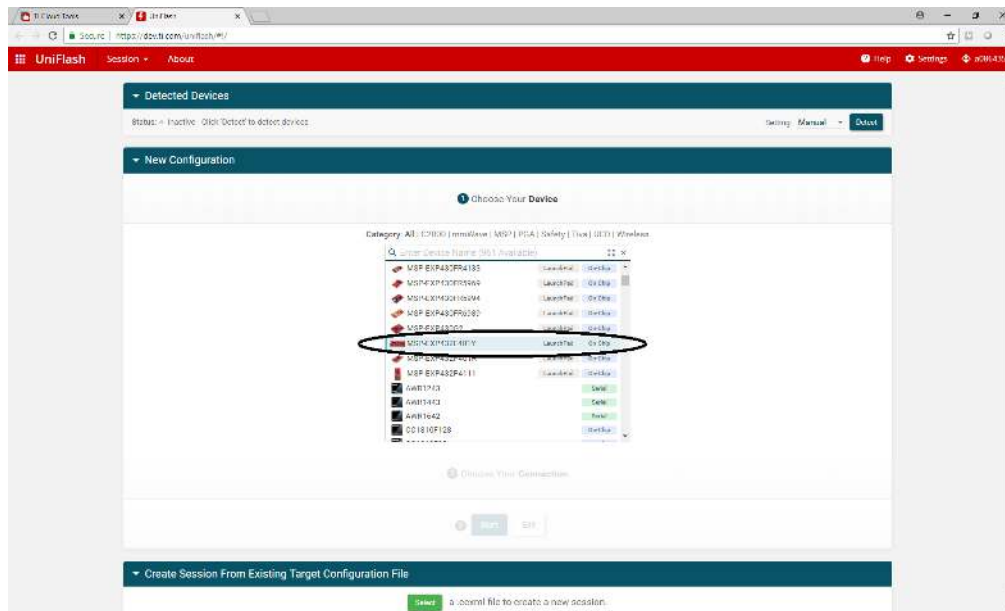

Figure 11. UniFlash: New Configuration
Start the UniFlash program and begin a *New Configuration* (Figure 11) and select the LaunchPad™ MSP-EXP432E401Y.
1. In the UniFlash program, select the MSP-EXP432E401Y LaunchPad™ from the drop down list as illustrated in Figure 11 to start a *New Configuration*.